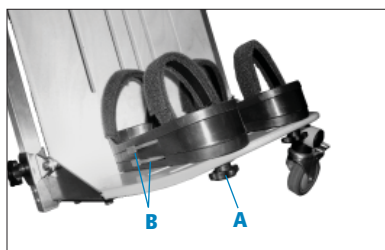

Figure 7a
Lift the headboard, slide the cleat (A) into frame slot, and tighten the cleat knob (B) (see Figure 7a).
Attaching sandals: (see Figure 7a)